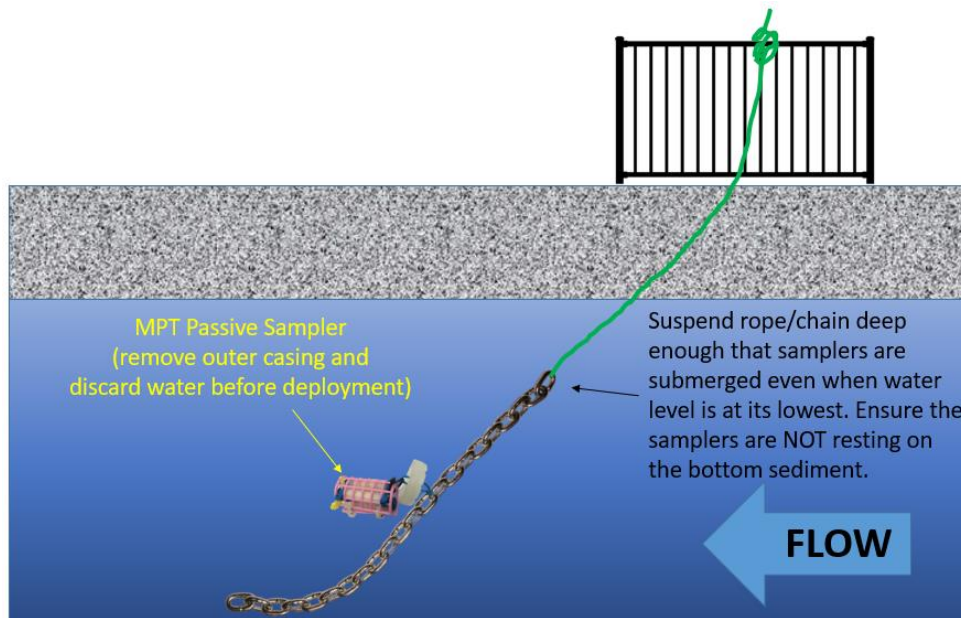

Figure 1: Deployment rope and chain with attached MPT passive samplers. Make sure samplers are deployed in a position where they will be continuously submerged.
2. Remove from the deployment rope/chain from the deployment container/cooler bag. Secure the deployment rope/ chain to the permanent structure or buoy above the sampling location, aiming to site the samplers at mid-depth in the water column. **They should remain submerged in all reasonable flow conditions but not rest on the bottom.** Figure 1 shows suggested deployment techniques.